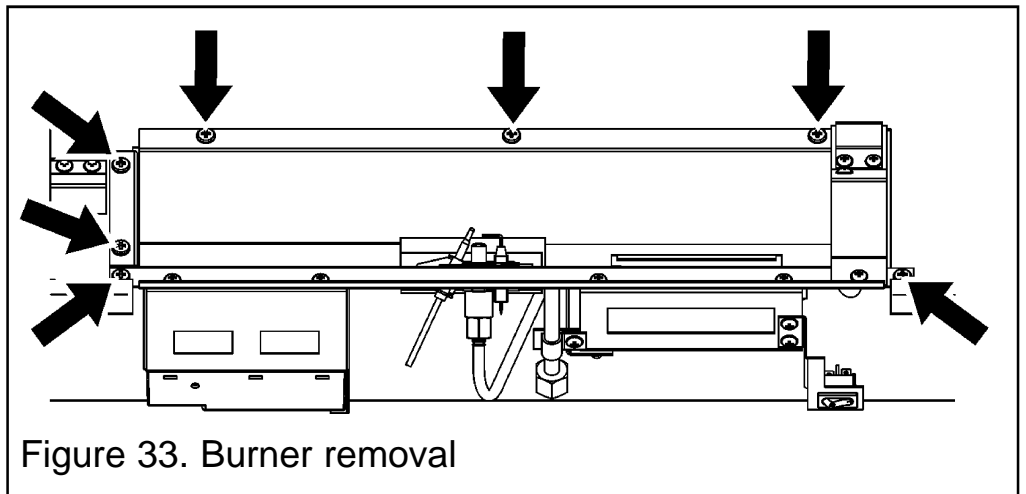

Figure 33. Burner removal
4. Unscrew and remove the seven screws from the top of the burner (See figure 33).